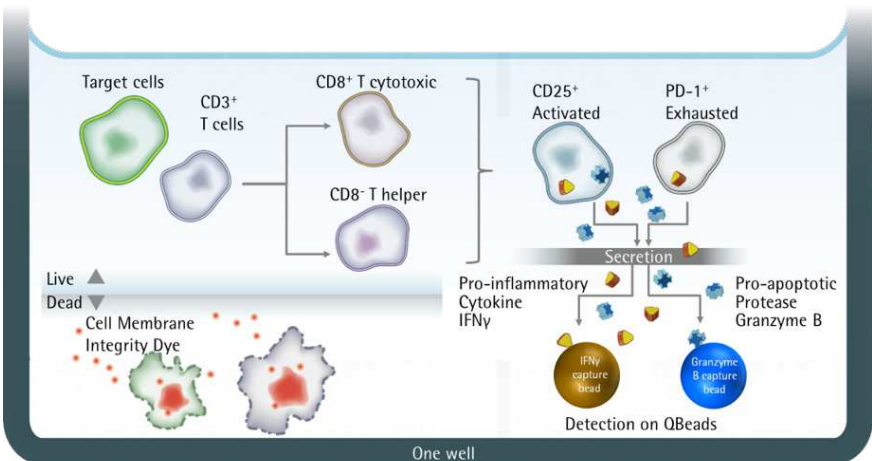

Figure 1. Simultaneous endpoint measurement in a single well.
- Analysis of killer T cell phenotypes, and functions at different stages in a single, high content assay including activation marker (CD25), exhaustion marker (PD-1), cell membrane integrity, cell count, secreted pro-inflammatory cytokine IFN γ , and pro-apoptotic serine protease Granzyme B (see **Figure 1**).